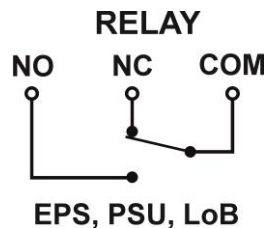

Fig. 5. Electrical diagram of relay outputs.
**CAUTION!** In Fig.5. the contact set in the potential-free status corresponds to a state with no AC power (AC power failure).
**CAUTION!** In the Fig.5. the set of contacts shows a potential-free status of the relay which corresponds to a state with no DC power (PSU failure).
**CAUTION!** In the Fig.5. the set of contacts shows a potential-free status of the relay which corresponds to a state with low battery level ( $U_{BAT} < 23V$ ).